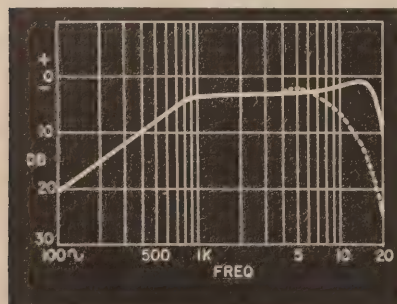

Fig. 1—Curve indicates unequalized playback of NARTB recorded tape and the effect of loading (dashed line).
A sampling oscillator produces a 32.5-kc sinewave which divides into two sine-wave outputs that are out of phase. These outputs are fed through a half-wave rectifier to produce two sets of pulses—one set for the right channel (A) the other set for the left channel (B). These pulses are modulated by the audio signal in their respective channels and give us the waveforms shown in Figs. 1-a and 1-b. Next these two sets of modulated pulses are combined to form the signal shown in Fig. 1-c. As a final step before being sent out to modulate the transmitter, sync pulses are added as in Fig. 1-d.
The receiver, of course, has the task of separating the two signals to form the two stereo channels. First, the incoming signal is detected in the usual manner, resulting in a signal that looks like Fig. 1-d again. The sync pulses
heads. Fig. 1 shows the effects of loading a high-impedance head. Tape noise, predominantly high-frequency hiss, is attenuated along with the highs. If high fidelity is desired, the highs must be boosted and along with them transistor noise and tape hiss. Amplifiers with high input impedances may solve the high-frequency problem but tend to have a low-frequency rumble, or leakage noise, unless the low-frequency base-circuit impedance is lowered by a large head-coupling capacitor. Unfortunately, the necessary large electrolytic capacitors leak and magnetize the playback head, further aggravating the noise problem.